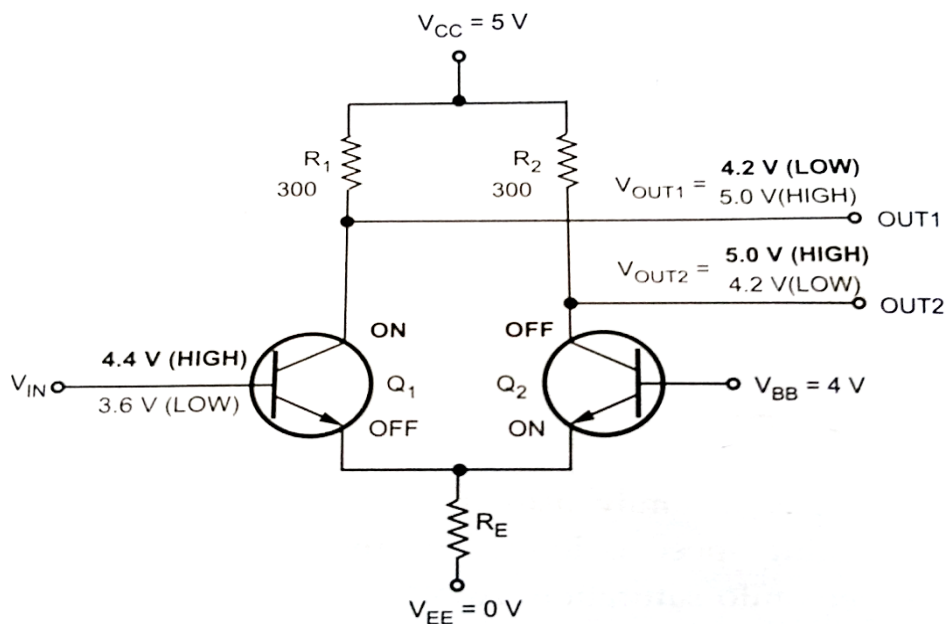

Figure 1.33: Basic ECL inverter/buffer circuit
- The figure 1.33 shows the basic inverter/buffer circuit in ECL family.